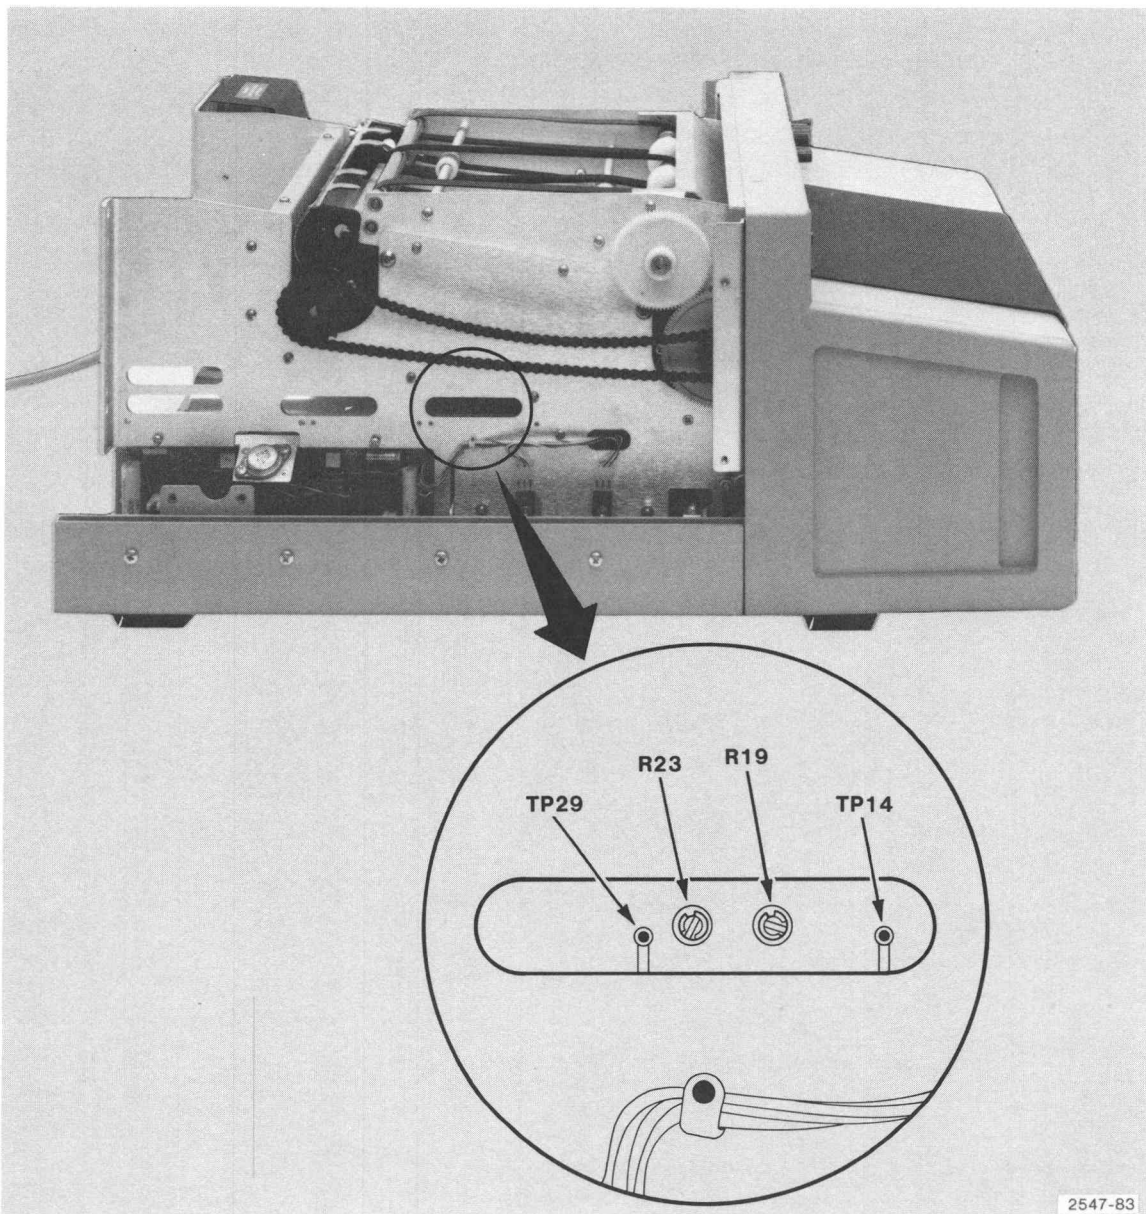

Figure 4-29. Test Points and Controls for Dynamic Focus Adjustment.
- 1) Connect the oscilloscope to TP29 on the Main board. This test point is accessible through an opening on the left side of the chassis (Figure 4-29).
- 2) ADJUST—R23 (Figure 4-29) to obtain the smooth parabolic shape shown in Figure 4-30.
- 3) ADJUST—R19 (Figure 4-29), the dynamic focus amplitude potentiometer for the best focus at the sides of the crt trace.